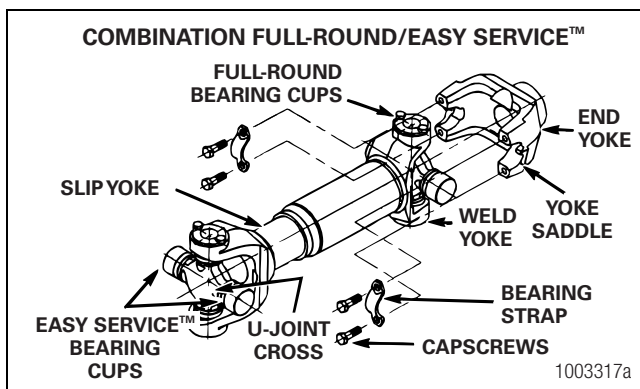

Figure 4.18
1. Check the driveline for looseness. If loose, service the driveline as necessary. Figure 4.18.